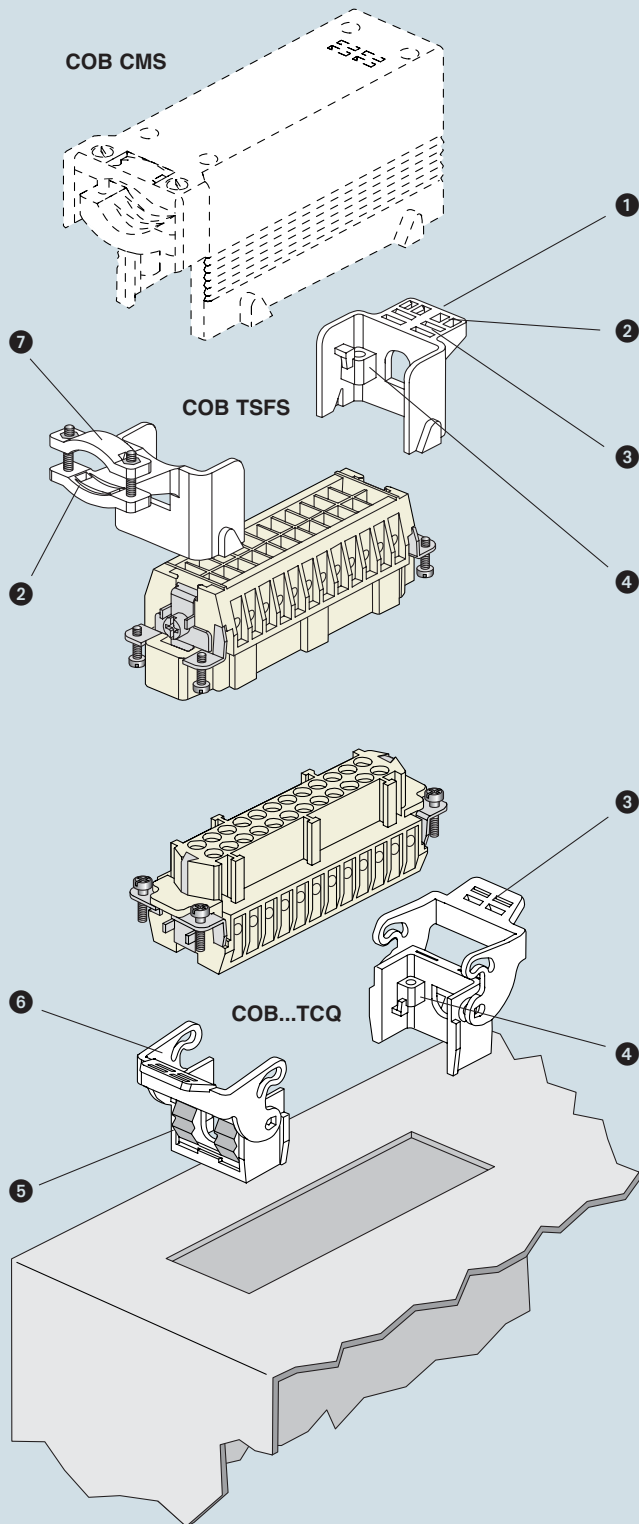

Figure 1:
- on panels with window snap fastening device* (**Figure 1**)